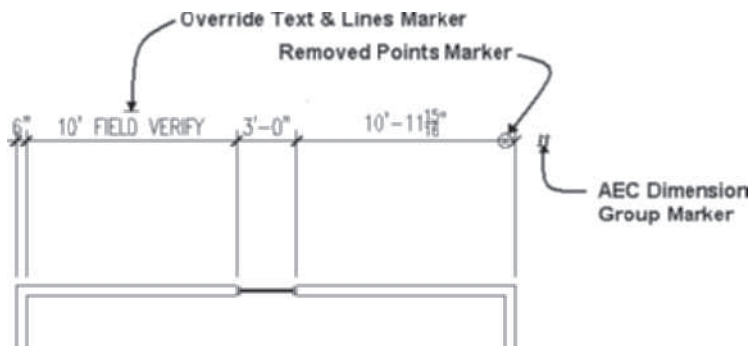

FIGURE 11.11 AEC Dimension Group Marker and Removed Points Marker display toggled ON
20. The Override Text & Lines Marker component consists of an overline placed over text when it has been overridden as shown in Figure 11.11.